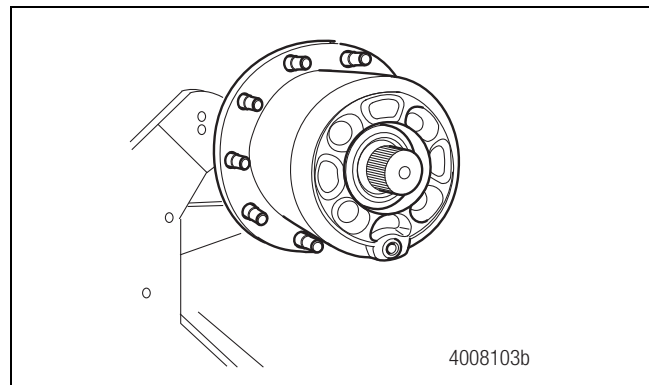

Figure 3.21
7. Pull the axle shaft from the housing only far enough to disengage it from the carrier, approximately six inches (152.4 mm). Use care to avoid damaging the axle shaft seal. Figure 3.21.